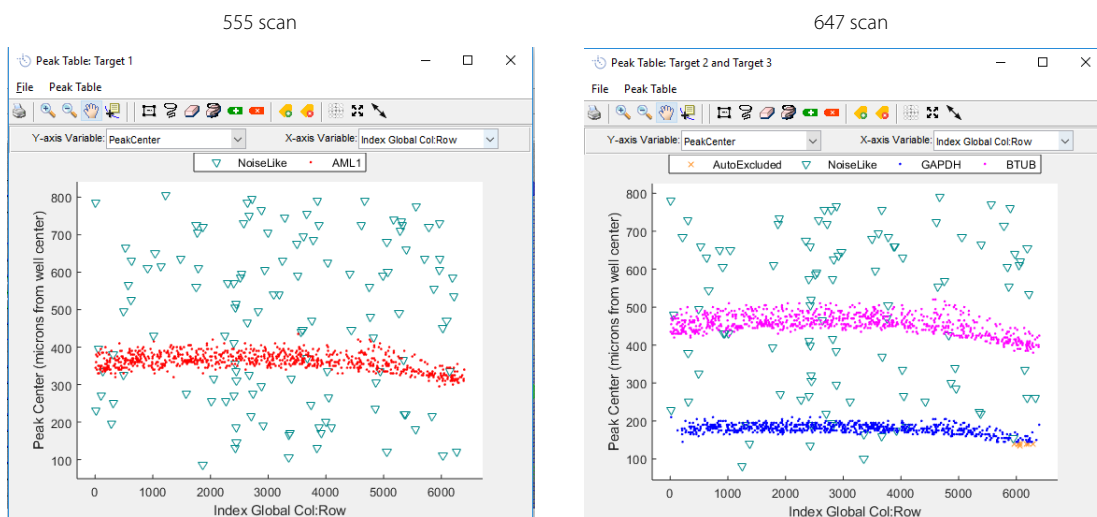

Figure 4-15: Peak Tables for multiple chip scans.
12. Repeat the Auto Tag protocol for other scans of your chip until you have labeled all the protein target(s) of interest that were probed on the chip (Figure 4-15).